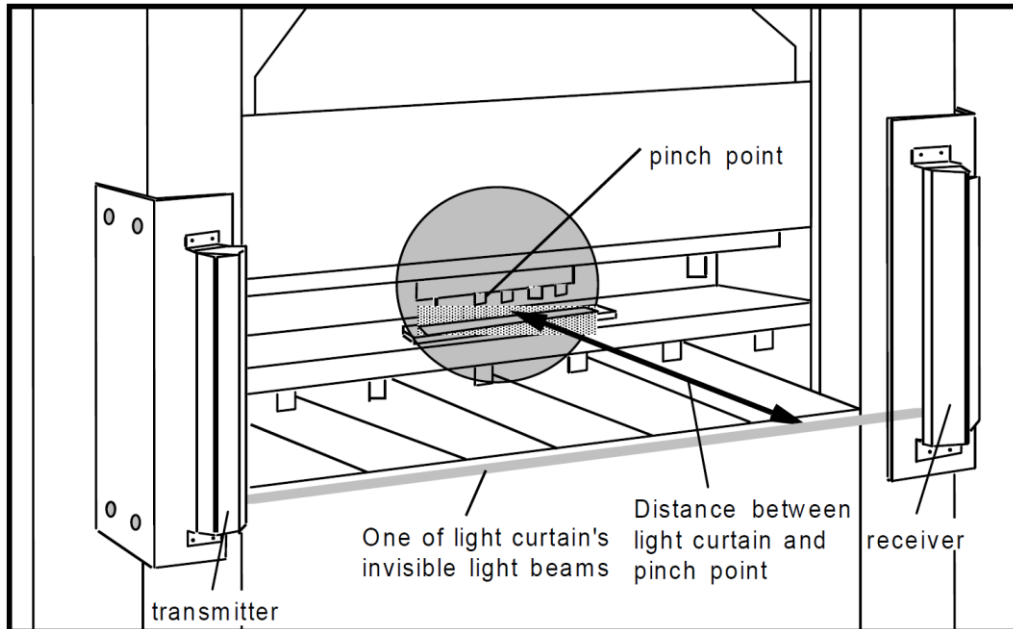

Figure 3-48. Safety Distance: Distance between Pinch Point and Light Curtain
- Mount the Shadow light curtain heads at least the safety distance from the nearest pinch point or hazardous area of your press (see Figure 3-48, page 160).
The “safety distance,” as shown in Figure 3-48, is the distance from the pinch point (or hazardous area) of the press that Shadow light curtains must be mounted to allow enough time for Shadow to